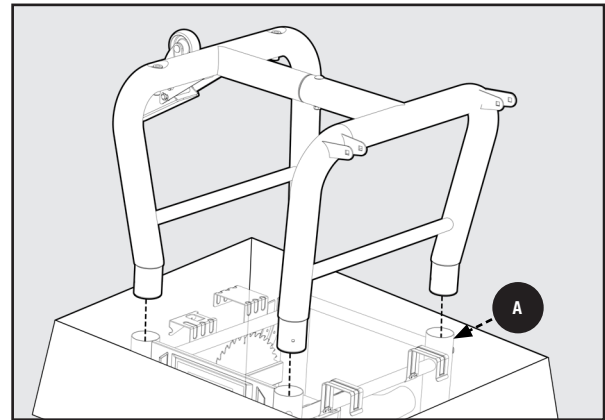

Figure 2
2. Insert the four open ends of the Tube Legs into the Leg Collars (A) as shown. Using a 10mm Wrench, secure each Leg to the Saw Body with (4) M6 x 72mm Carriage Bolts (HP4) and (4) M6 Nylock Nuts (HP5) and tighten. See Figure 2.